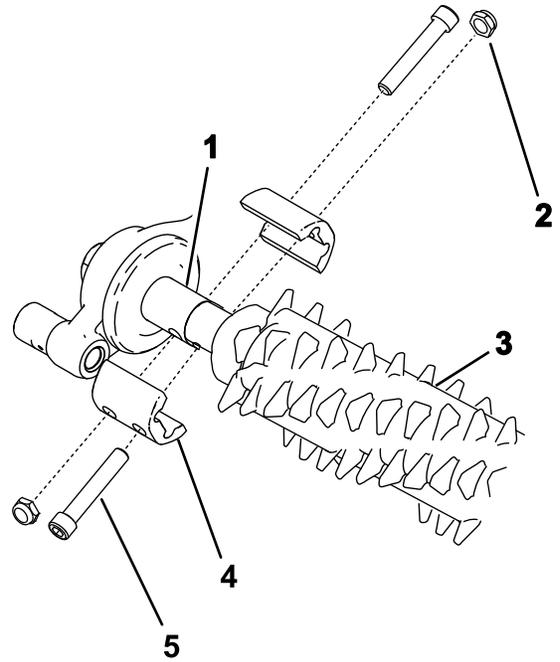

Figure 26
2. Line up the grooming reel assembly with the groomer drive box and idler assembly (Figure 26).
4. Tighten the bolts that hold the groomer assembly in place as shown in Figure 26; torque the bolts to 5 to 7 N·m (46 to 60 in-lb).